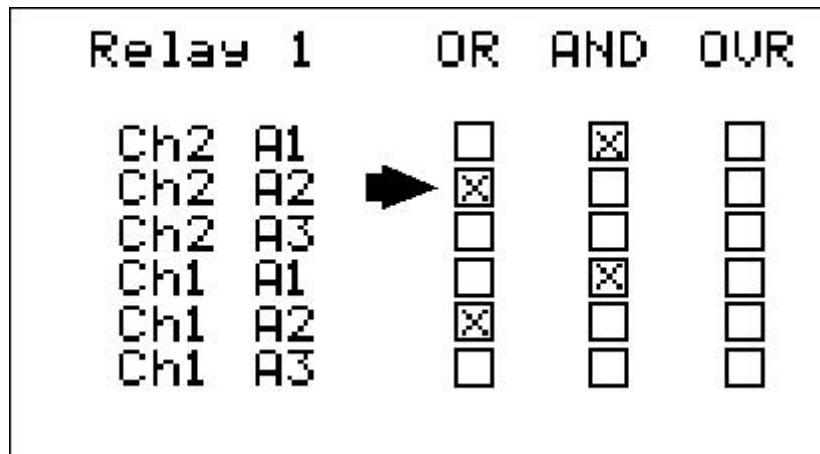

Figure 2.9
- The **Set Relay Logic** menu shown below in Figure 2.9 offers additional “voting” flexibility by controlling the channel alarm combinations that will trip this common alarm relay. “**OVR**” on the menu’s right side stands for *override* and means ANY of the selected alarms will activate the relay. The “**OR**” / “**AND**” columns work together based upon the following logic equation: